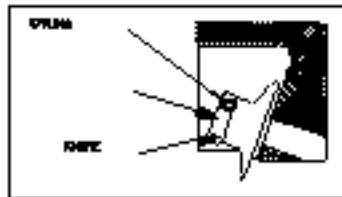

Figure 10.
4. Reattach the knife by grasping the knife shoulder. Slide the knife over the "O" ring on the knife stud. Twist and push the knife until it is seated against the knife holder. See Figure 10.